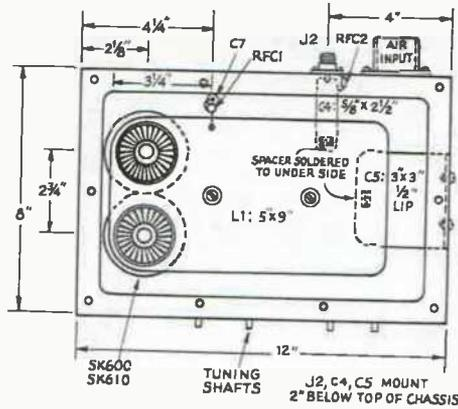

Fig. 13-43 — Details of the plate compartment, showing placement and dimensions of all major components.
- C4 - String-driven loading capacitor. See text and Fig. 13-43.
- C5 - String-driven tuning capacitor. See text and Fig. 13-43.